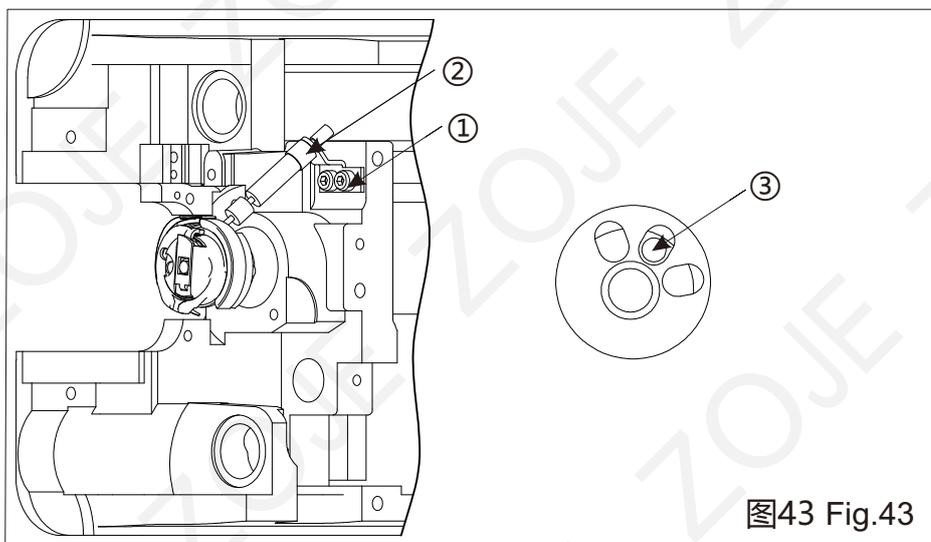
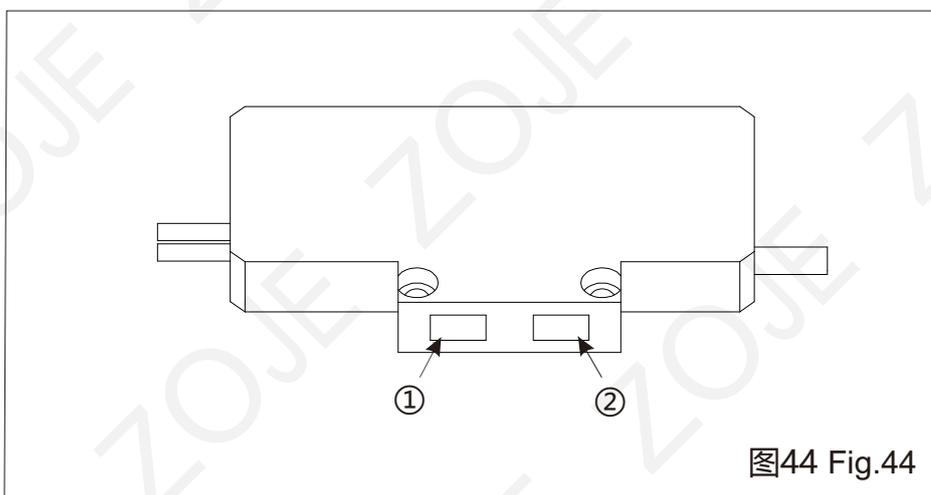
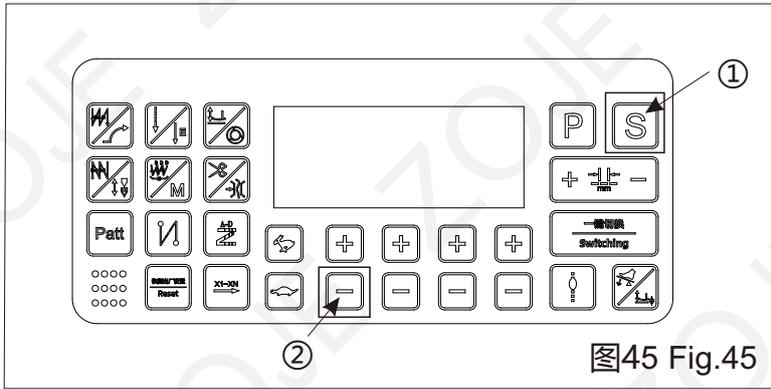

图43 Fig.43
图44 Fig.44
图45 Fig.45
34 底线检测的调节(图43、图44、图45)
Adjustment of bottom line detection(Fig. 43, Fig. 44, Fig. 45)
调整安装板①位置，保证聚焦镜②红外线照进梭芯，如图43所示。
2. 设置传感器放大器的报警值(图44)
Adjust the position of the mounting plate ① to ensure that the infrared rays of the focusing lens ② shine into the bobbin, as shown in Figure 43.
2. Set the alarm value of the sensor amplifier, as shown in Figure 44.